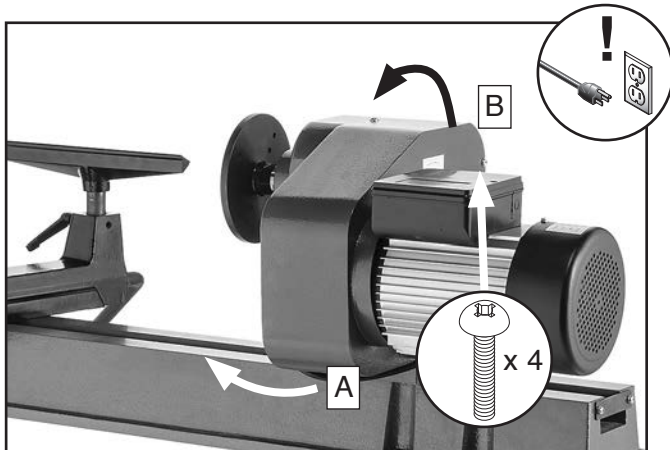

Figure 43. Opening V-belt cover.
2. Remove (4) Phillips head screws holding V-belt cover in place (see **Figure 43**).
3. Pull lower corner of V-belt cover (Position A) at an angle until motor shaft is visible, and pull top of V-belt cover (Position B) toward you to remove it (see **Figure 43**).